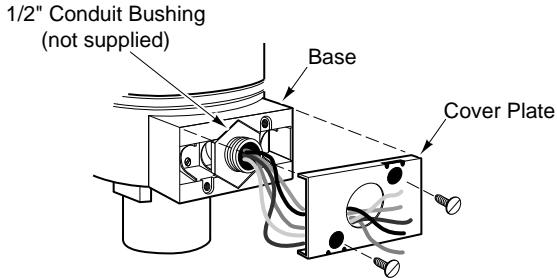
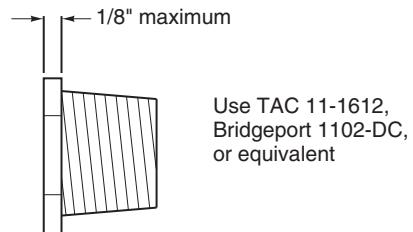

Figure-11 Conduit Bushing and Cover Plate Installation.
Figure-12 1/2" Conduit Bushing.
- Slip the leads through a standard 1/2" conduit bushing (not supplied) and the knockout hole in the cover plate. Refer to Figure-11 and Figure-12 .
Note: As shown in Figure-11, the hole in the cover plate of the actuator conduit housing is sized to accept both British standard M20 (20 mm) conduit connectors and 20 mm-to-PG16 adaptors for use with DIN PG16 connectors. (Follow the steps for installing the conduit box to the actuator.)